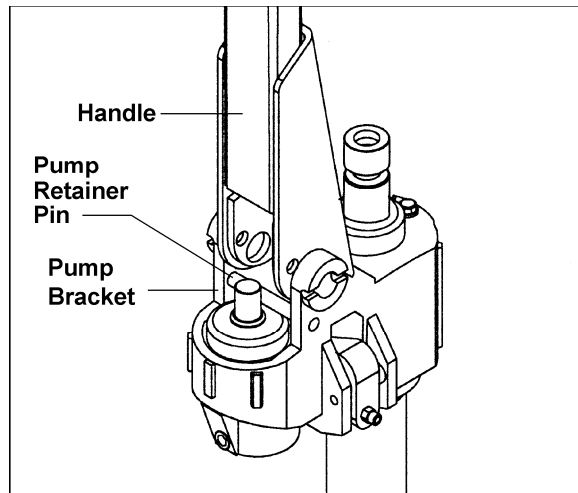

Figure 1
1. Insert the base of the handle into the pump bracket (Figure 1). Align the holes at the base of the handle with the holes in the pump bracket.
5. Tap out the pump retainer pin (Figure 1) and discard it.